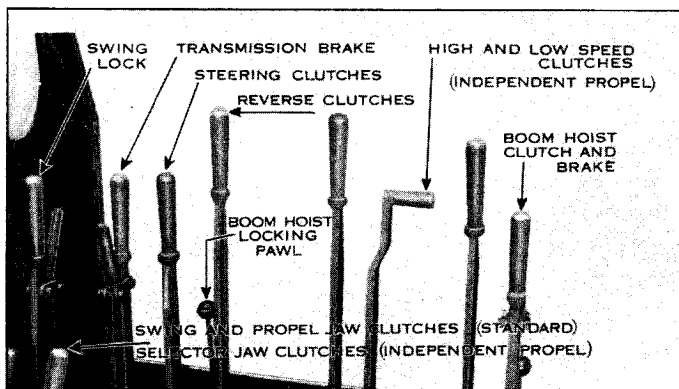

FIG. 3
The lever at the extreme left, in the bank of levers in front of the operator, engages the swing locking dog with the teeth of the swing rack. (See Fig. 3).
The lever, second from the left (with the toothed ratchet quadrant) in the bank of levers in front of the operator (See Fig. 3), controls the transmission brake shoe on the right hand reverse clutch housing.
The lever third from the left (next to the transmission Brake lever) in the bank of levers in front of the operator (See Fig. 3) controls the steering clutches on the propel shaft in the truck frame .
On standard machines, not equipped with "Independent Propelling," movement of the machine forward or backward is controlled by the Reverse Clutch lever in front of the operator. (See Fig. 3). (This lever is also used for swinging the machine, when the swing jaw clutch is engaged).
On machines equipped with "Independent Propelling" (Special Equipment), the machine can be propelled either forward or backward at high or low speed without interference with the other functions of the machine. In normal service the Selector Jaw Clutch lever (nearest the operator in the bank of levers at his left) (See Fig. 3), is set in the forward notch of its quadrant so that the selector jaw clutch is engaged to give high speed propelling in the forward direction (cat driving chains to the rear).
1. To propel forward, at high speed, push the Propelling Clutch lever (with the horizontal grip) (See Fig. 3) in the bank of levers in front of the operator.
The boom hoist clutches and brake are controlled by the lever at the extreme right in the bank of levers in front of the operator. (See Fig. 3). The lever has three positions:
The locking pawl, to prevent the boom "creeping" down, is operated by the small lever with ball grip to the left in front of the main lever bank. (See Fig. 3).